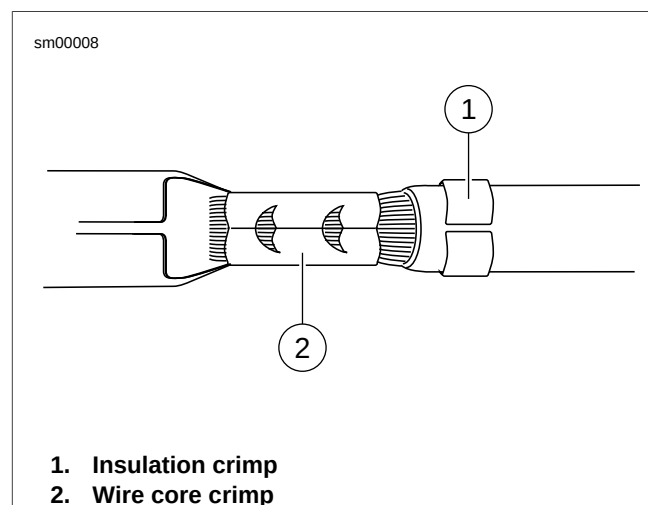

**Figure A-61. Tydo 070 Multilock Unsealed Connector:
See Figure A-61. Inspect the wire core crimp (2) and insulation crimp (1). Distortion should be minimal.